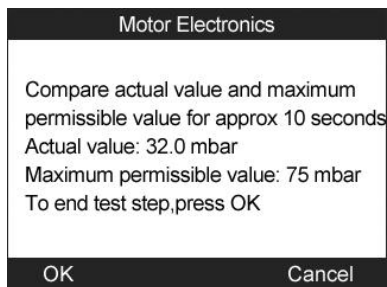

Figure 14.40
- c) Check the exhaust backpressure with engine running idle. The tool will read off the actual backpressure value and compare with the upper limit. (Figure 14.40). Select **OK** to continue the test or **Cancel** to return to previous menu.